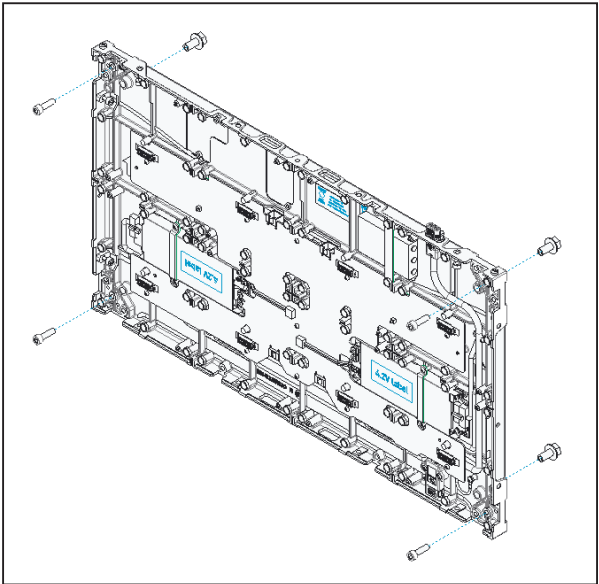

Figure 17: Install Hardware in First Panel
2. Install four M8 bolts (HC-5402405) through the rear of the panel so the threads are engaged but not tightened all the way. Leave $\sim\frac{1}{4}$ " between the bolt flange and the rear of the panel. Refer to **Figure 17** and **Figure 18**.